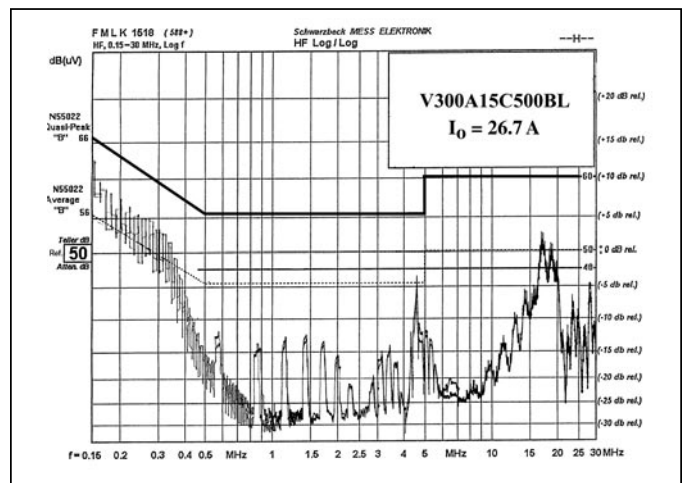
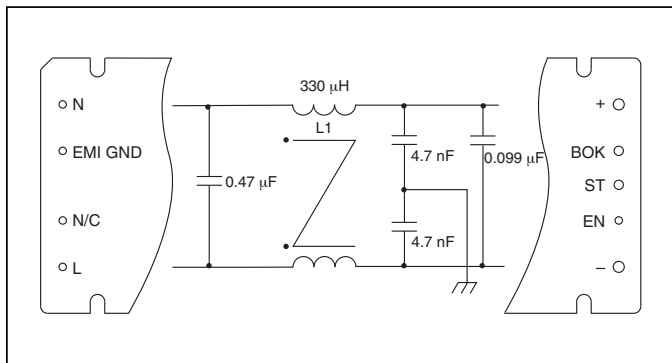

Figure 6 — Typical Conducted Emissions
Figure 12 — Internal filter
**Filter.** (see Fig. 12) An integral input filter consists of a common mode choke and Y rated capacitors (line-ground) plus two X rated capacitors (line-line). This filter configuration provides common mode and differential mode insertion loss in the frequency range between 100 kHz and 30 MHz as illustrated in Figure 6.